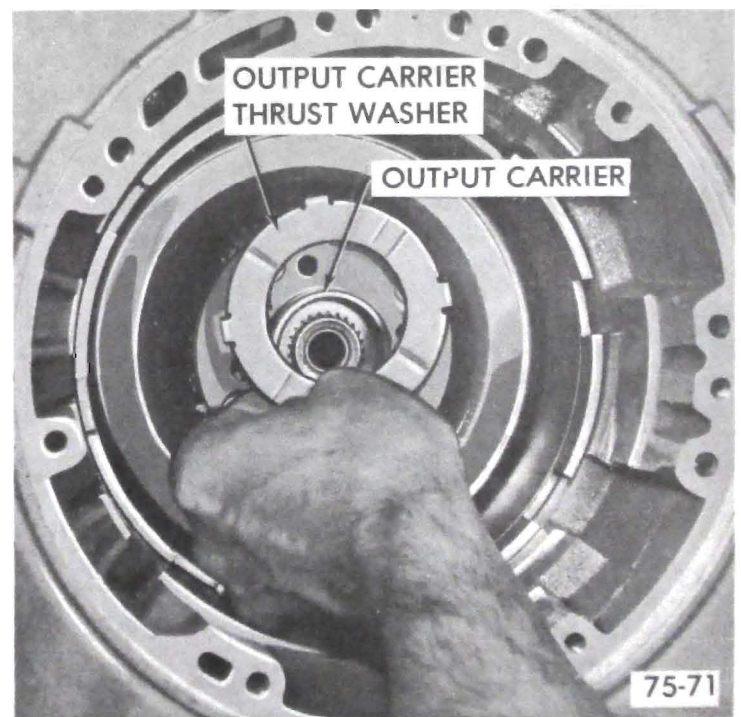

Figure 75-101
1. Remove input ring gear to output carrier thrust washer. See Figure 75-101.